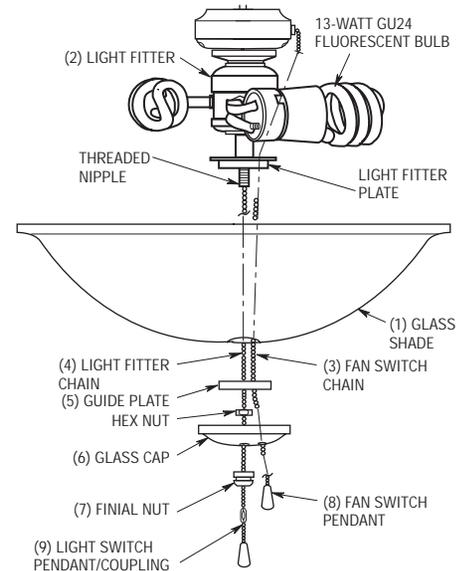

Figure 6
- Place glass shade (1) onto light fitter(2) making sure that both fan switch chain(3) and light fitter chain(4) are positioned through the center hole in glass shade(1) (Figure 6).
- Slide the switch chain(3) through the side hole of the guide plate(5) and the light fitter chain(4) through the center hole of the guide plate(5) (Figure 6).
- Slide the guide plate(5) up the light fitter's threaded nipple until the glass shade(1) mates with the bottom of the light fitter plate (Figure 6).
- Install the hex nut onto the threaded nipple and firmly hand tighten the nut to secure the guide plate(5) and glass shade(1) onto the light fitter(2).
- Slide the fan switch chain(3) through the side hole of the glass cap and slide the light fitter chain(4) through the center hole of the glass cap(6). Slide the glass cap(6) up the threaded nipple until it rests against the bottom of the glass shade(1) (Figure 6).
- Pass the light fitter chain(4) through the center of the finial nut and fasten the finial nut(7) onto the fitter nipple. Gently hand tighten the finial nut(7) up against the bottom of the glass cap(6) to secure it in position (Figure 6).
- Reinstall the fan switch pendant(8) to the fan switch chain(3) (Figure 6).